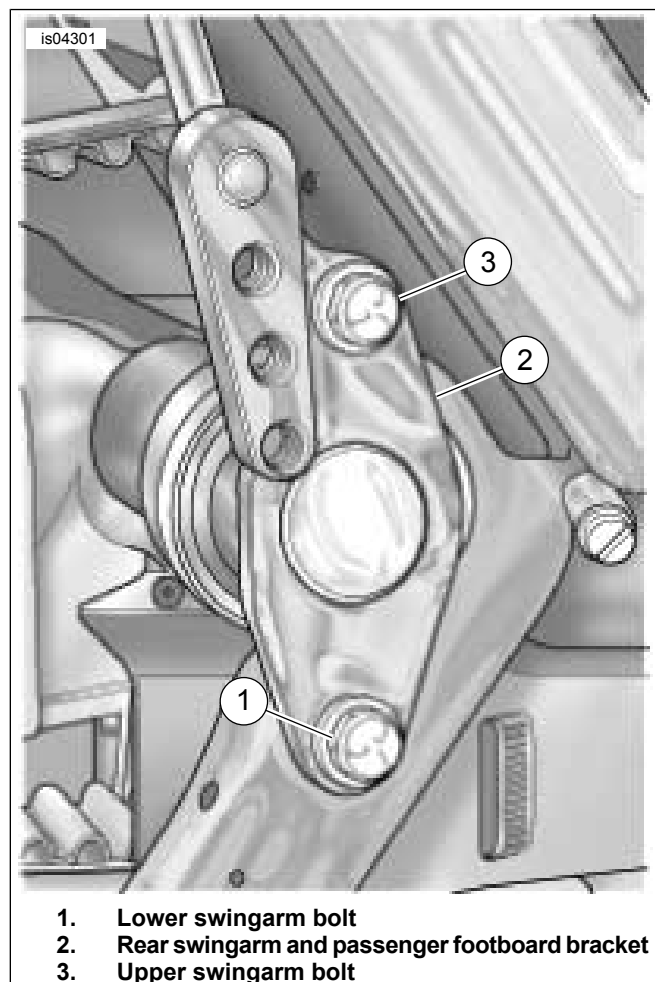

Figure 2. Swingarm Bolt Location
See Figure 2. The right hand and left hand lower swingarm bolt (1) must be removed and replaced with **new** bolts from the kit
5. Remove bolts (3) holding the right hand muffler (4) and left hand muffler (5) to muffler support brackets (6).
6. Remove Keps nut (7) and exhaust support screws (8). Remove exhaust support bracket (9).
7. On the right hand side of vehicle, remove transmission clamp (10).
9. Loosen the front header pipe heat shield (11) and rear header pipe heat shield (12).
10. Loosen the four front and rear exhaust flange nuts (13).
11. See Figure 2. Wedge a rolled up rag in between the rear exhaust pipe and transmission side cover and pull the right side exhaust assembly away from motorcycle until enough clearance is gained to remove the lower bolt (1) on the rear swingarm and passenger footboard bracket (2). **Do not** remove lower bolt (1) until instructed to do so in the following section.
See Figure 2. While performing the following step, support engine and **DO NOT** remove the upper bolts (3) from the left and right swingarm brackets.
2. See Figure 2. Remove the lower 7/16-14 x 1-1/4 inch swingarm bolts (1) from left and right swingarm bracket (2) and discard bolts.